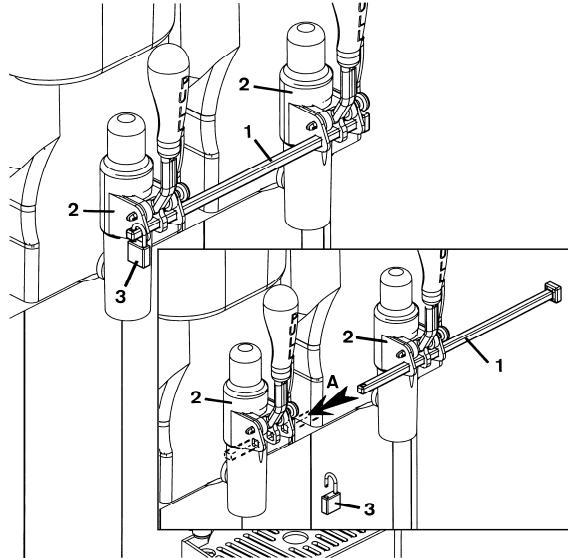

Figure 9
1. The machines come from factory with a handle locking system (**fig 9**) (locker (3) not included).